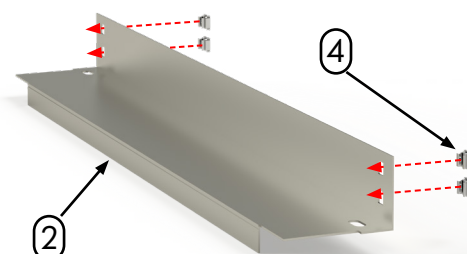

Figure 2
- Place four flanged cage nuts per rail from the rear (Figure 2).